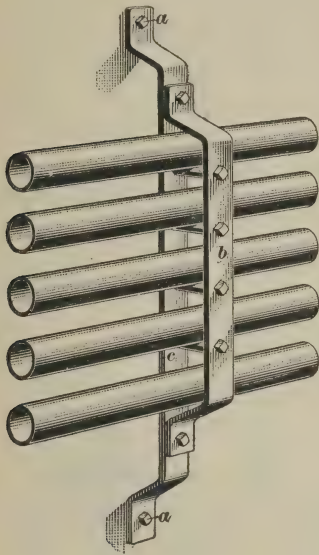

FIG. 55
**76. Side-wall, or ceiling, brackets** are used in many cases to make a strong and serviceable support for pipes and coils. They are forged of iron to the required shape. They are particularly suitable for supporting coils in skylights, on ceilings, or on sloping walls, where the cast-iron hook plate will not give a secure support. Fig. 55 shows such a bracket secured to a brick wall by expansion bolts at *a*, *a*. A forged iron strap or bar *b*, offset at both ends, is bolted to the bar *c*, the bolts forming the pipe supports.